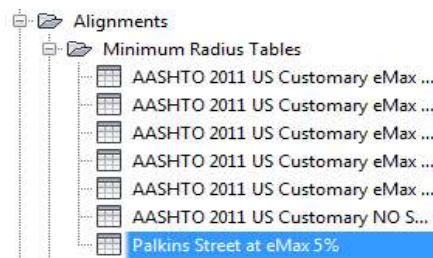

Figure 5-75 The **Palkins Street at eMax 5%** table added in the **Minimum Radius Tables** subnode
8. Double-click on the table **New Minimum Radius Table** and change the name to **Palkins Street at eMax 5%**. Then press ENTER; a new minimum radius table is created, as shown in Figure 5-75.